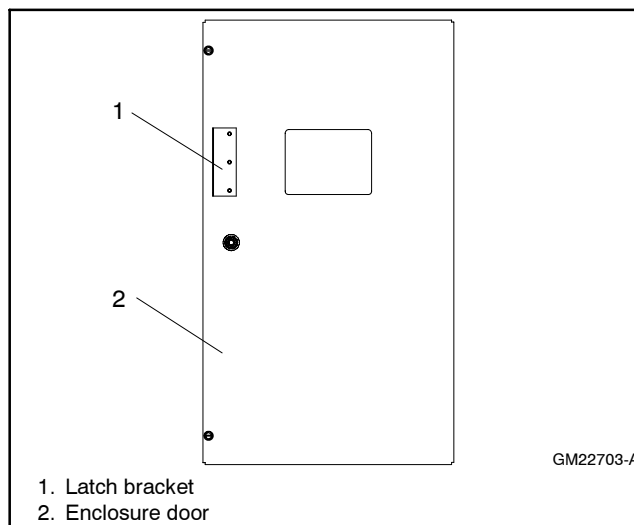

Figure 4 Attaching Latch Bracket
- 2.2 Attach the latch bracket (GM22533) to the outside surface of the door using three 10-32 nuts (X-6210-1). Do not final-tighten the nuts at this time. See Figure 4.